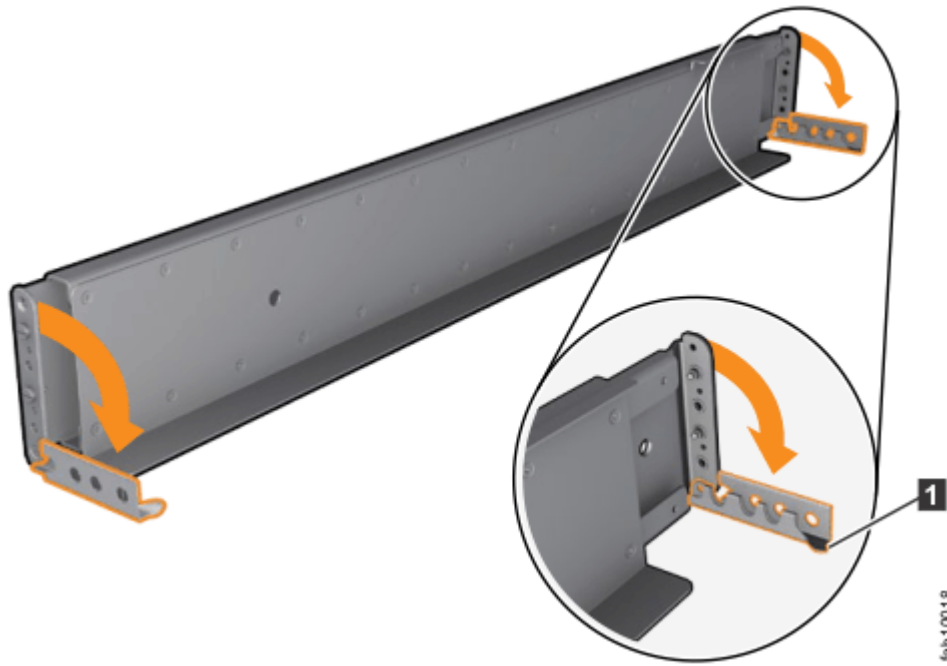

Figure 3. Opening the hinge brackets
4. At each end of the rail, grasp the tab **1** and pull *firmly* to open the hinge bracket. (See Figure 3 on page 14.)